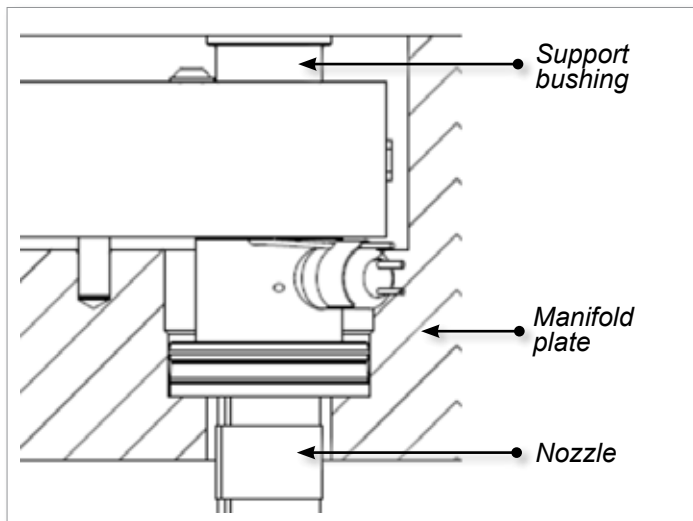

Figure 5-17 Support bushing in ThinPAK system
3. Use a dowel pin to install all of the support bushings into the manifold. See Figure 5-17.